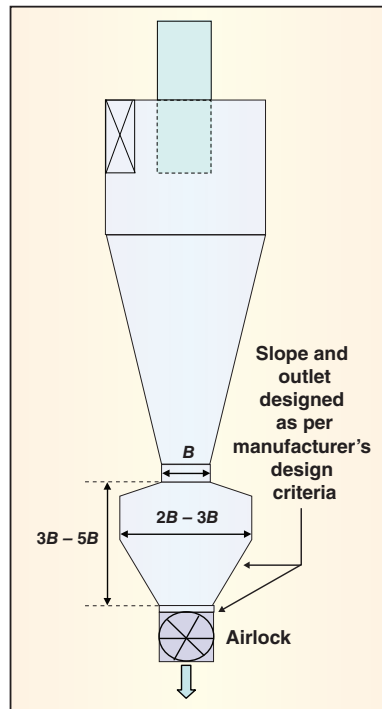

FIGURE 12. A disengagement hopper arrangement at the bottom of the cyclone is an efficient approach to mitigate re-entrainment
Cyclones are designed to discharge the collected particles into a gas tight area that is sufficiently remote from the actual discharge point of the cyclone. Active vortex flow and the potential for re-entrainment of fine particles that have been collected will extend far below the actual discharge of the cyclone. Vortex severity is a function of the cyclone geometry and flowrates. A minimum of three cyclone discharge diameters (B) of clearance between the cyclone discharge and the closest point at which collected particles may accumulate should be provided. If the cyclone velocities are high, the particles to be collected are very fine, or both, greater clearance is advised. A disengagement hopper arrangement at the bottom of the cyclone is an efficient approach to mitigate such re-entrainment (Figure 12).